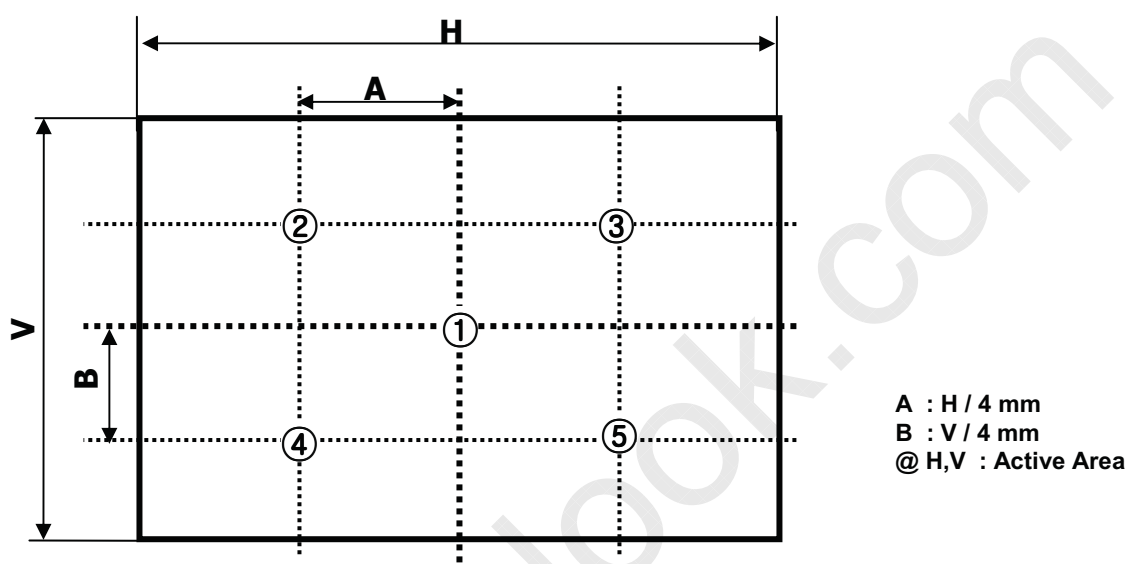

FIG. 2 5 Points for Luminance Measure
n = the Position number(1, 2, 3, 4, 5). For more information, see FIG 2.
2. Surface luminance are determined after the unit has been 'ON' and 1 Hour after lighting the backlight in a dark environment at $25 \pm 2^\circ\text{C}$. Surface luminance is the luminance value at center 1-point across the LCD surface 50cm from the surface with all pixels displaying white. For more information see the FIG. 2.
For more information, see the FIG. 2.